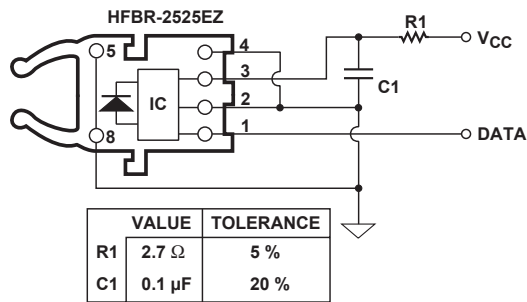

Figure 11. Recommended receiver application circuit
- Pin 4 is electrically isolated internally. Pin 4 may be externally connected to pin 1 for board layout compatibility with HFBR-25X1Z, HFBR-25X2Z and HFBR-25X4Z. Otherwise it is recommended pin 4 be grounded as in Figure 11.